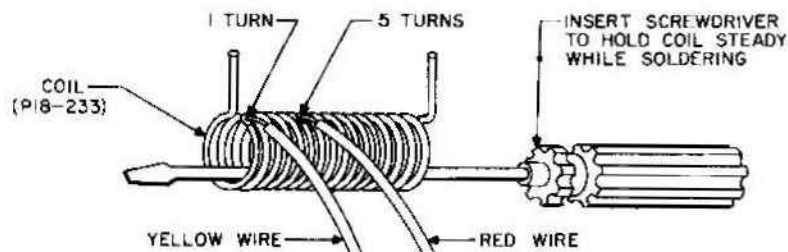

Figure 8. Soldering Leads to Coil
- () 28. Prepare coil L1 as follows: (Refer to figure 8 for details.)